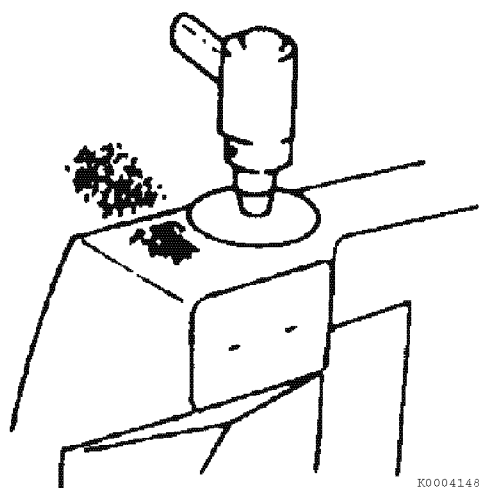

Figure 14
6. Grind the areas where fiberglass will be used to fasten bed to hull bottom to ensure a good bond (Figure 14).